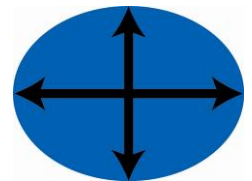

Figure 4
3. Read each spot twice, reading corresponding concentration for a long and a short diameter of each spot, and calculate a mean average concentration for each spot (Figure 4).